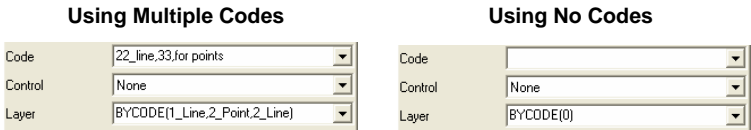

Figure 5-83. Layer Determination when Applying Codes
- If the point has multiple codes, setting Layer to “BYCODE” forces it to belong to multiple layers (Figure 5-83).
- If the point has no code, setting Layer to “BYCODE” forces the point to belong to layer 0 (zero) (Figure 5-83).